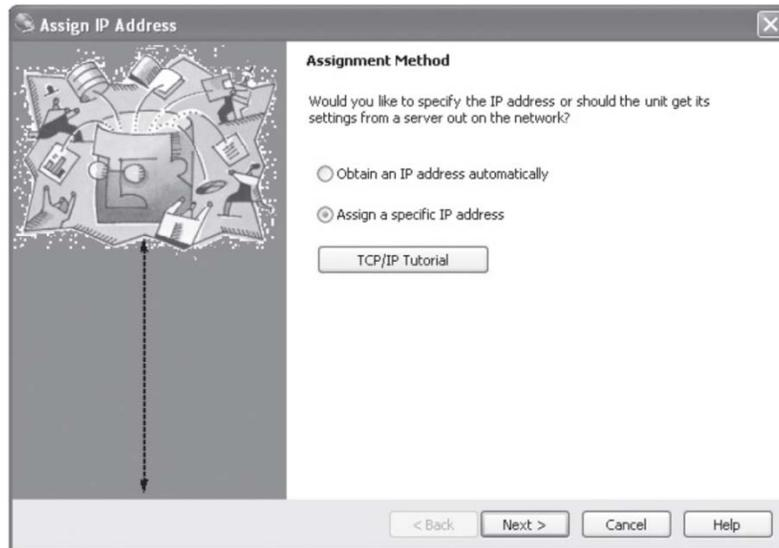

Figure 24: Assignment Method screen for assigning a specific IP address
- The "Assignment Method" screen appears. From here select "Assign a specific IP address," as shown in figure 24, then select the **Next >** button.